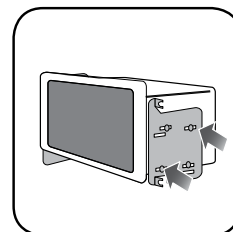

Fig. 1.9
- Attach the provided metal brackets to the new radio. (Fig. 1.9)